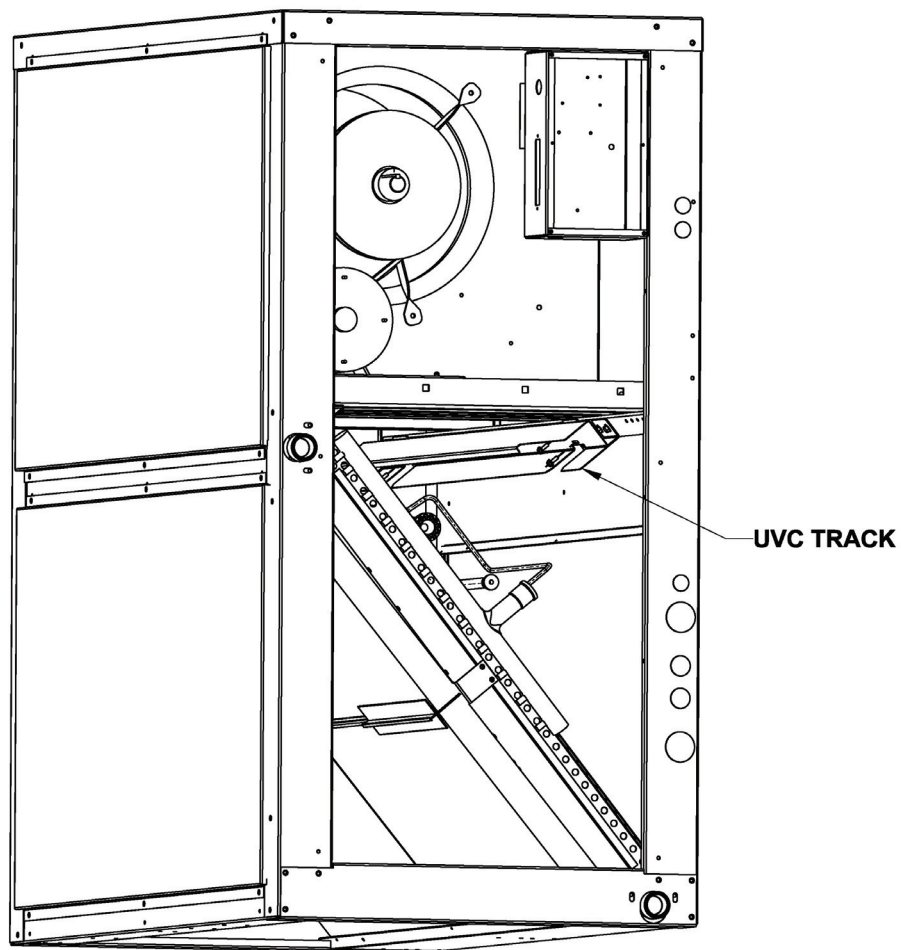

Fig. 4 — Track Location
3. Locate track and install it using #10 screws (4). (See Fig. 4.)